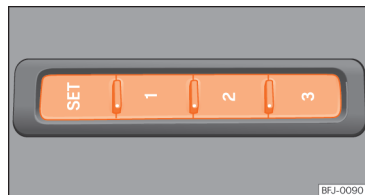

Fig. 76 On the outer side of the driver's seat: memory buttons.
- Press **SET** for longer than 1 second »» Fig. 76.